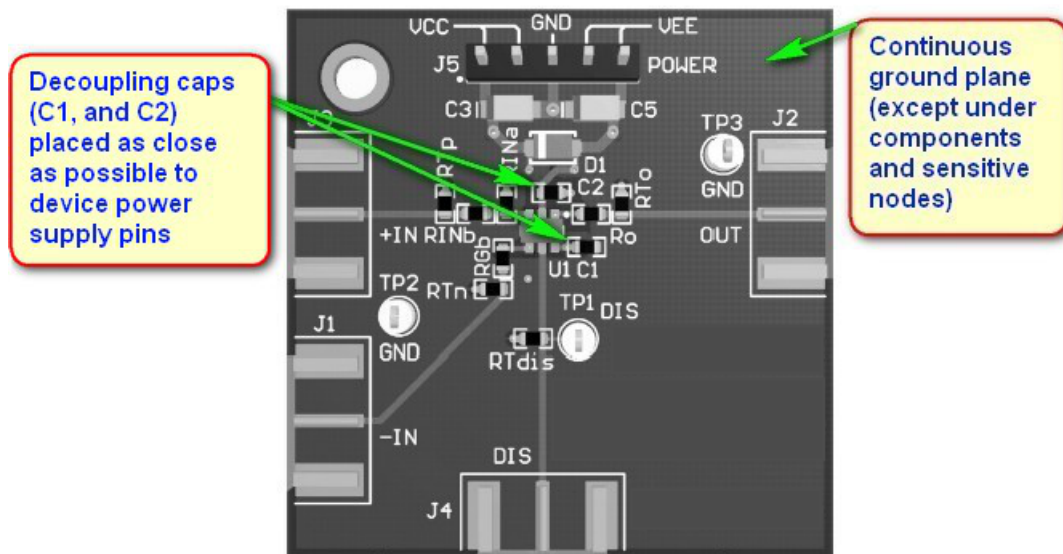

Figure 28. LMH6702-MIL Evaluation Board Layer 1
- Continuous ground planes are preferred for signal routing with matched impedance traces for longer runs. However, open up both ground and power planes around the capacitive sensitive input and output device pins as shown in Figure 28. After the signal is sent into a resistor, parasitic capacitance becomes more of a bandlimiting issue and less of a stability issue.
- Use good, high-frequency decoupling capacitors (0.1 μF) on the ground plane at the device power pins as shown in Figure 28. Higher value capacitors (2.2 μF) are required, but may be placed further from the device power pins and shared among devices. For best high-frequency decoupling, consider X2Y supply-decoupling capacitors that offer a much higher self-resonance frequency over standard capacitors.